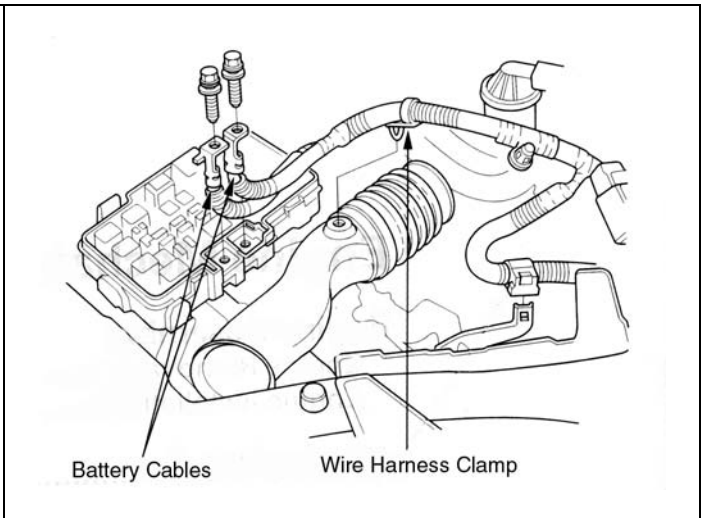

Fig. 2
- b) Remove the battery cables from the fuse box, and remove the wire harness clamp from the Intake Air Duct. **(Fig. 2)**